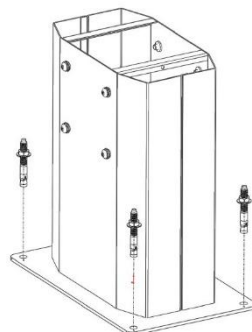

Figure 7 - Anchor Pedestal
6. Secure pedestal to concrete using the four wedge anchors provided and install them at least 2.25 inches into the concrete with a torque setting of 780 ± 10 in-lbs (90 ± 10 N-m) (Figure 7).